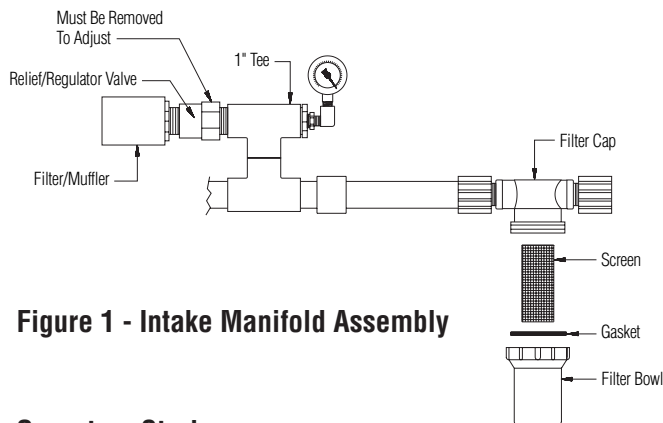

Figure 1 - Intake Manifold Assembly
* Clean Weekly, (See Maintenance Chart). Locate on intake manifold (Refer to Figure 1).
*Check Monthly, (See Maintenance Chart). Locate on Intake Manifold (Refer to Figure 1).
To set vacuum level adjustment: (See Figure 1)
*Clean or Replace Annually, (See Maintenance Chart). Locate on Intake Manifold (Refer to Figure 1). Unscrew from valve. Clean Media or replace Relief/Regulator Filter